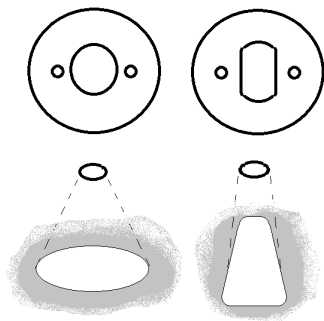

Fig. 2
- Choose the required bezel and lens according to the light output pattern required (see Fig. 2)